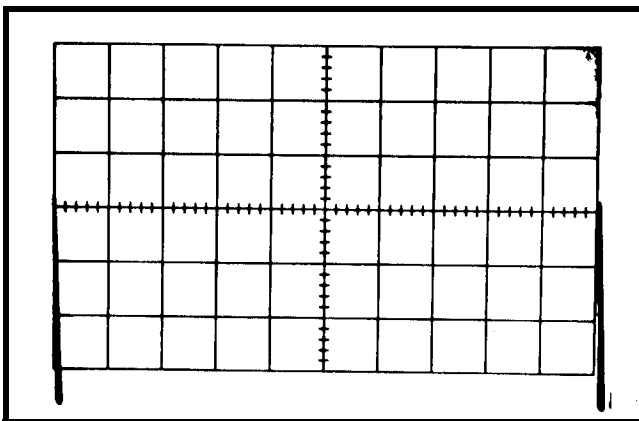

Fig. 6-47. Typical CRT display when checking delayed-sweep accuracy.
- Set the HORIZ DISPLAY switch to DELAYED SWEEP (B).
- CHECK-Using the A TIME/DIV switch, B TIME/DIV switch and time-mark generator settings given in Table 6-7, check delayed sweep accuracy within the given tolerance. First set the DELAY-TIME MULTIPLIER dial to 1.00 and rotate the dial until the sweep starts at the top of the second marker (see Fig. 6-47). Note the dial reading and then set the dial to 9.00 and rotate until the sweep starts at the top of the tenth marker. DELAY-TIME MULTIPLIER dial setting must be 8.00 divisions higher; + or - the allowable error given in Table 6-7.